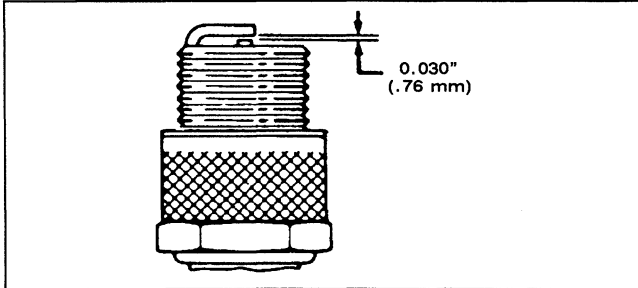

Figure 16
3. INSTALL SPARK PLUG—Set air gap (Fig. 16) between electrodes at .030" (.76 mm). Install plug and tighten to 15 ft-lb (20.4 N-m). If torque wrench is not used, tighten plug firmly with wrench by hand; **DO NOT OVERTIGHTEN**. Push wire onto spark plug and reinstall control panel.